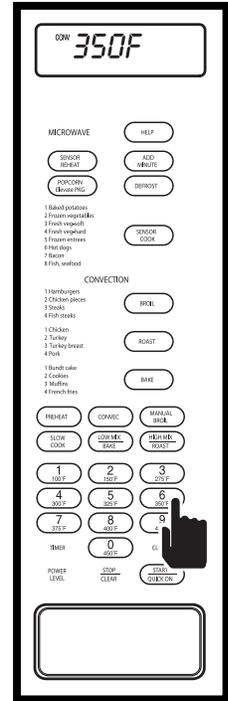

Figure 3-72.
2. Select desired cooking temperature. Press the number 6 key, "350F - ENTER - COOKING - TIME" will flash on display (See Figure 3-72).